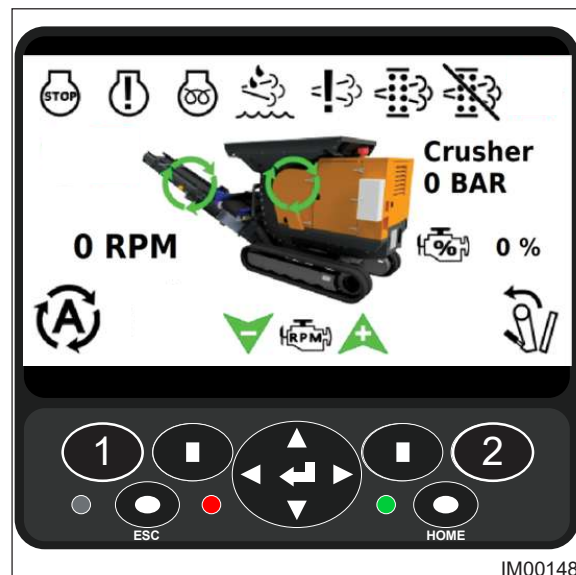

Fig. 8.6 - Machine Operating Screen
9. When the radio remote handset powers on the control panel will display the machine operating screen (Fig: 8.6).